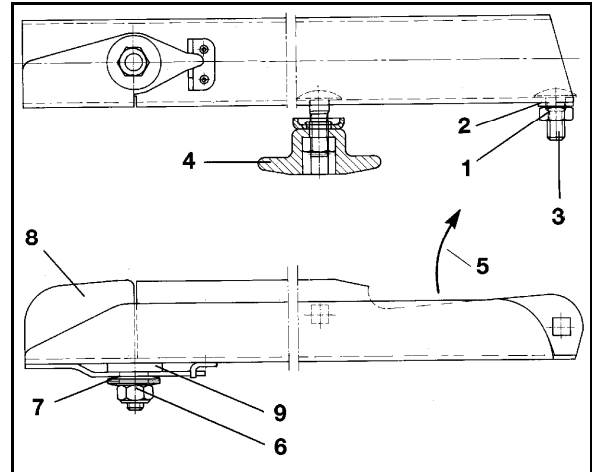

Fig. 82
1. Release the self-locking nut (Fig. 82/6).
2. Remove the self-locking nuts (Fig. 82/6), disc springs (Fig. 82/7) and swivel blades (Fig. 82/8) from the fixing bolts.
3. Make sure that the plastic washer (Fig. 82/9) remains on the fixing bolt.
- 4.1 Push the new swivel blade (Fig. 82/8) on to the fixing bolt.
- 4.2 Push the disc springs (Fig. 82/7) alternately (not stacked on top of one another) on to the fixing bolt.
- 4.3 Secure the plastic washer (Fig. 82/9), swivel blade (Fig. 82/8) and disc springs (Fig. 82/7) with an unused self-locking nut (Fig. 82/6) so that they move on the spreading vane.
- 4.4 Tighten the self-locking nut (Fig. 82/6) with a tool so that the swivel blade (Fig. 82/8) can still just be swivelled by hand but cannot swing upwards automatically.